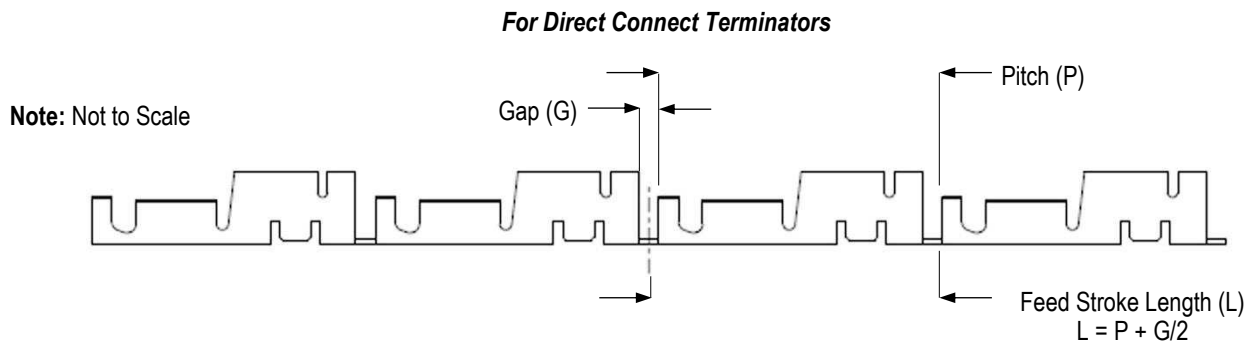

Figure 22
3. Turn the adjusting wheel to the appropriate “L” dimension for the terminal being processed. Refer to the customer drawing for the “L” dimension for AMPLIVAR terminals. If data is not available, set the “L” to the terminal pitch plus half of the gap between the terminals (see Figure 22).